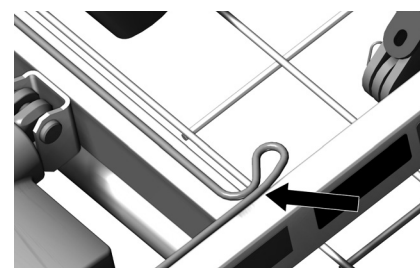

Figure 5
9. Secure the cable using cable ties. Create a small cable bundle using a cable tie in the corner of the frame, as shown in Figure 5.